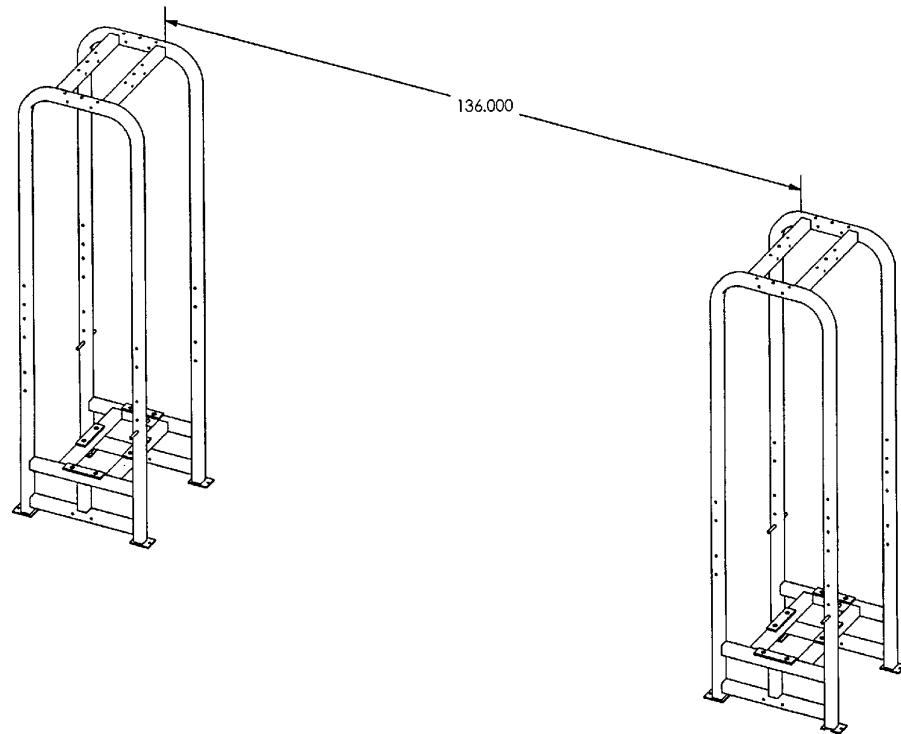

Figure 3. Set the weight stack cubes.
1. **Place the two weight “cubes”** in their “final resting spots.” The cubes will be approximately 11’4” apart as shown in Figure 3.
Hardware Figure 3 shows the types of cables that are included with the SM80.
Hardware Figure 3. Cables.